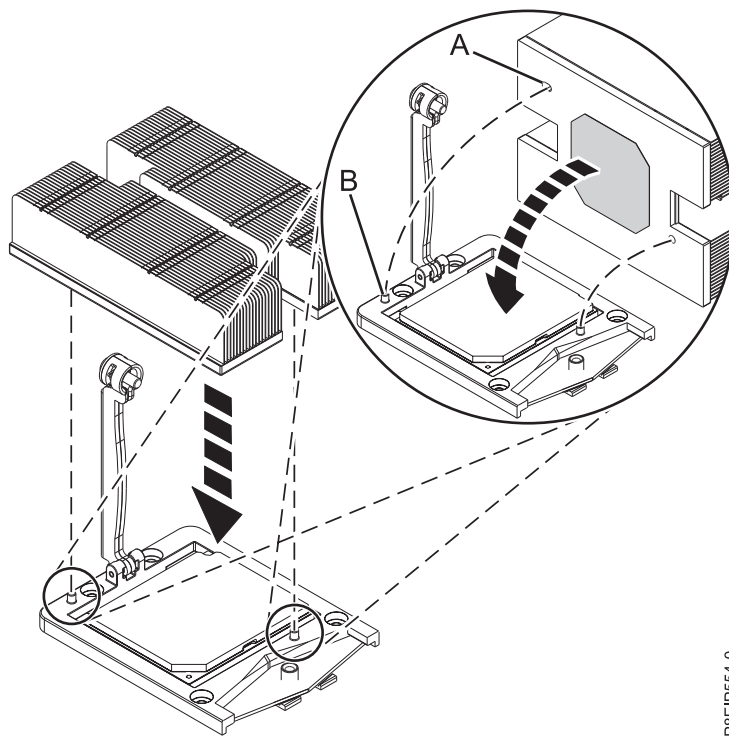

Figure 40. Installing the heat sink
11. Move the processor heat sink to the processor. Carefully lower the heat sink over the system processor module, ensuring that the holes in the heat sink (A) align with the two guide pins (B) on the socket, as shown in Figure 40.